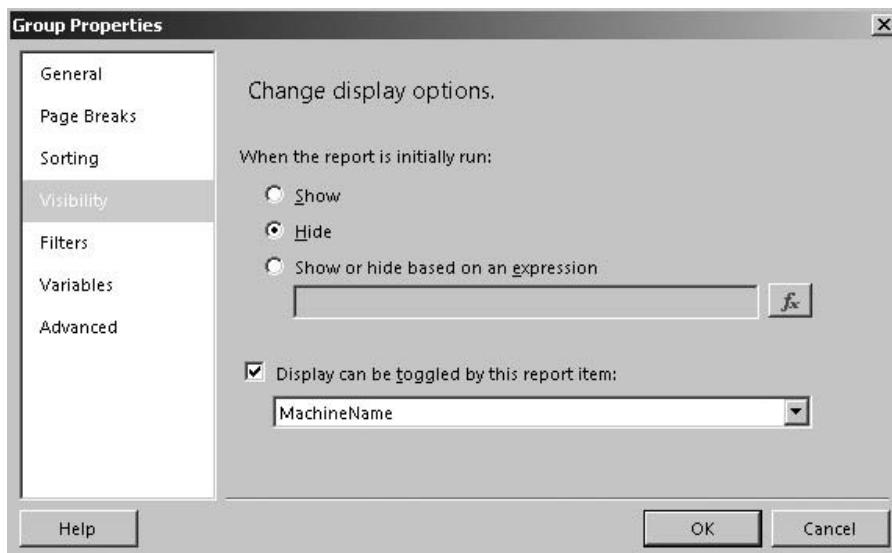

Figure 16-24 The Visibility page of the Group Properties dialog box for the details group
63. Select the Visibility page. The Visibility page has been changed from the default settings, as shown in Figure 16-24.